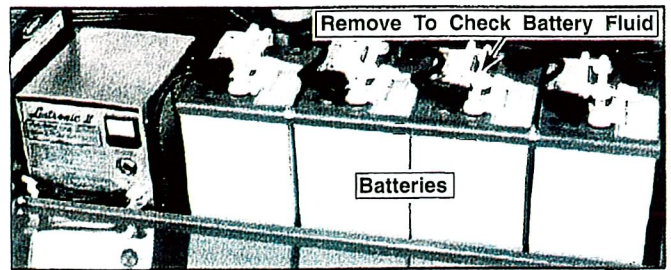

Figure 6: Chassis Power Module, Left Side
Check battery fluid level daily (Figure 6), especially if work platform is being used in a warm, dry climate.
1. Check battery fluid level (Figure 6). If electrolyte level is lower than $\frac{3}{8}$ in. (10 mm) above plates add distilled water only.